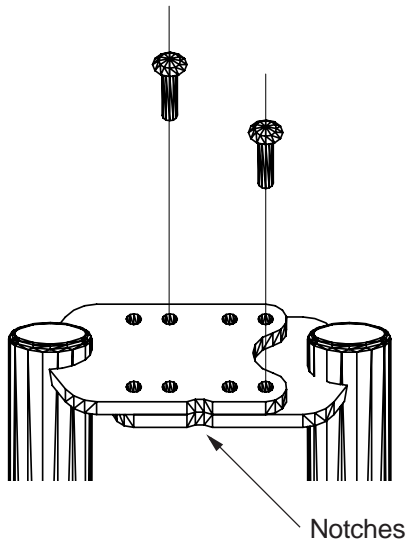

Figure 1A
1.1 Hold the support arm plates together with the notches aligned as shown in Fig 1A. This is the medium Support Arm spacing. Insert 2 carriage bolts to help maintain the alignment.